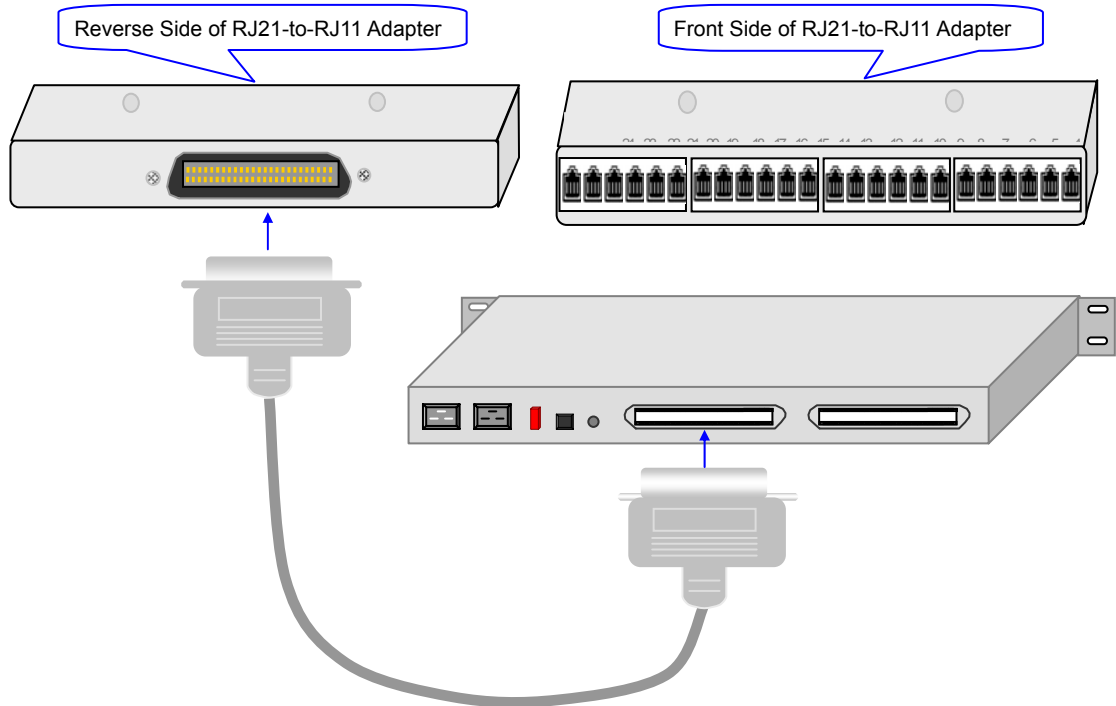

Figure 2-6 Connecting RJ21-to-RJ11 adapter
An RJ21 interface can be converted to 24 RJ11 interfaces through an RJ21-to-RJ11 adapter. See Figure 2-6 for the connection. SHT-30B/Chbank needs two 24-port RJ21-to-RJ11 adapters of which the first 15 slots will be used.
- ④ To convert RJ21 interface to RJ11 interface, a 24-port RJ21-to-RJ11 adapter can be used. Please refer to Figure 2-6 Connecting RJ21-to-RJ11 adapter.